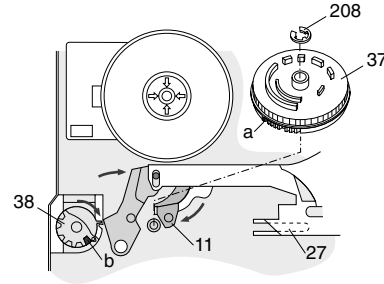

Fig. 26
- Move the pinch roller drive lever (Pos. 11) and the slider (Pos. 27) in the direction of the arrows (Fig. 26) to their stop positions.
- Insert and turn the master cam (Pos. 37) clockwise so that the big tooth engages with the big space of the cassette compartment drive gear (Pos. 38, Fig. 26).
- Secure the master cam (Pos. 37) with the securing ring (Pos. 208) (Fig. 26).